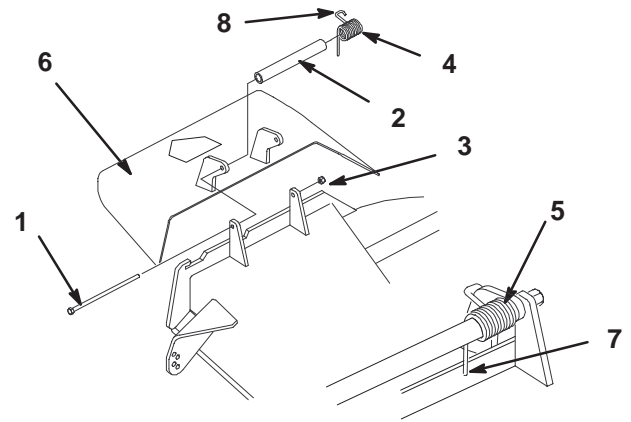

Figure 59
1. Remove the locknut, bolt, spring and spacer holding the deflector to the pivot brackets (Fig. 59). Remove damaged or worn grass deflector.
Note: Make sure the straight end of spring is installed behind deck edge before installing the bolt as shown in figure 59.
3. Install bolt and nut. Place hook end of spring around grass deflector (Fig. 59).